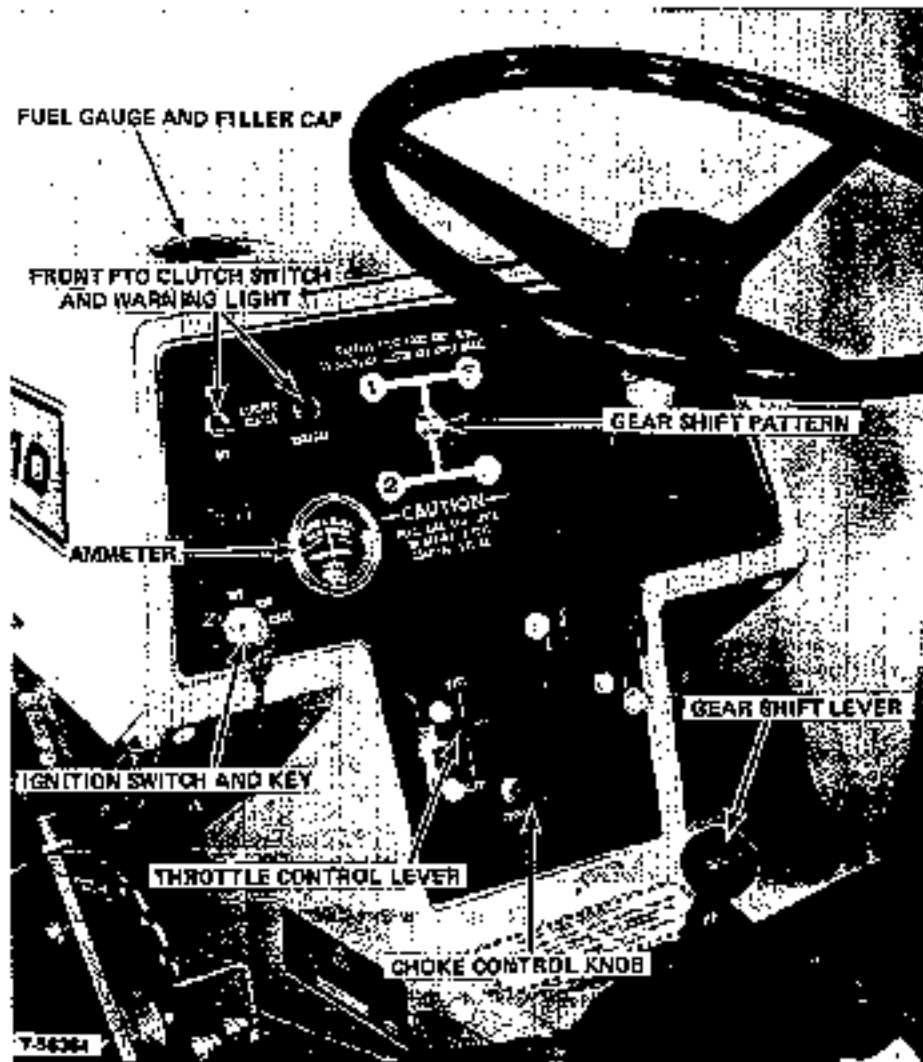

FIGURE 1 - Controls - Model 410 Standard 3 Speed Transmission
1. IGNITION SWITCH AND KEY (Figure 1)
2. CHOKE CONTROL KNOB (Figure 1)
3. THROTTLE CONTROL LEVER (Figure 1)
4. FRONT PTO CLUTCH SWITCH AND WARNING LIGHT (Figure 1)
5. AMMETER (Figure 1)
6. FUEL GAUGE AND FILLER CAP (Figure 1)
GEAR SHIFT LEVER (Figure 1)
The gear shift pattern is shown on the tractor control panel (Figure 1). To shift transmission gears the tractor movement must be stopped and the clutch brake pedal must be fully depressed. The gear shift lever must be in the center of the neutral position for engine starter to operate.
2. On 3 speed transmission tractors and shuttle clutch tractors. Place gear shift lever in neutral and front PTO clutch switch in "Off" position to activate the interlock safety switches (Figures 1 and 2).